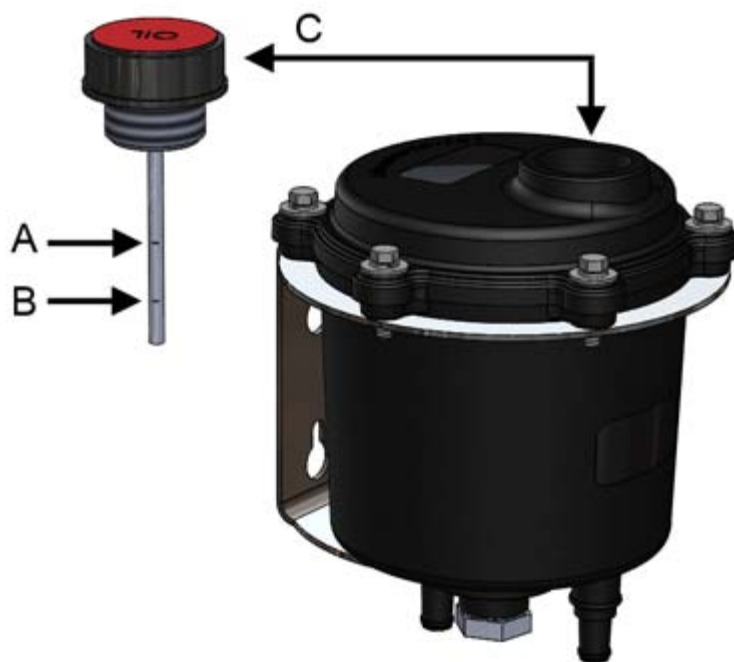

Figure 25. Checking the oil level
6. Check the oil level from the dipstick on the reservoir cap (Figure 25, point B) .
The system must have the right amount of oil. If you need to add oil to the system, add it in the oil reservoir through the cap (Figure 25, point C). There is a dipstick on the reservoir cap with markings for maximum and minimum oil levels (Figure 25).